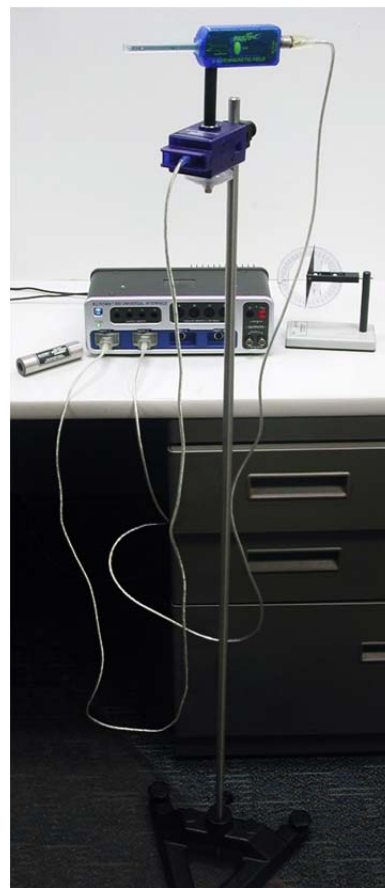

Figure 4: Setup
1. Assemble the system as shown in Figure 4. Note that the raised key inside the Magnetic Field Sensor handle slides into the notch on the shaft of the Rotary Motion Sensor. Use a nonmagnetic stainless steel rod in the rod holder. Attach the Rotary Motion Sensor as high as possible on the stainless steel rod to keep the Magnetic Field Sensor as far away from the rod as possible. Set up on the floor away from the lab table (see Figure 4) to help minimize the presence of stray fields.